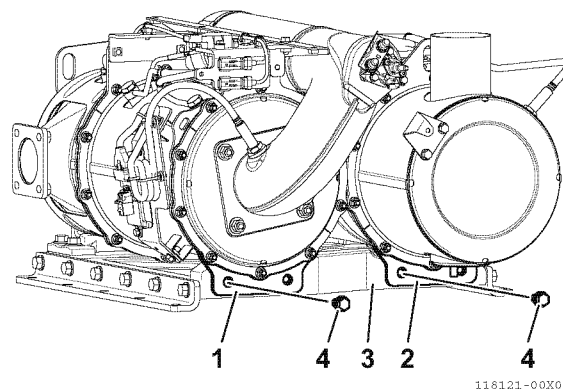

Fig.25-60
- On the opposite side, loosely tighten the SF stiffener plate (1, Fig.25-60) of the DPF and SCR exhaust gas outlet pipe flange (2, Fig.25-60) to the DPF-SCR bracket (3, Fig.25-60) using the bolts (4, Fig.25-60).